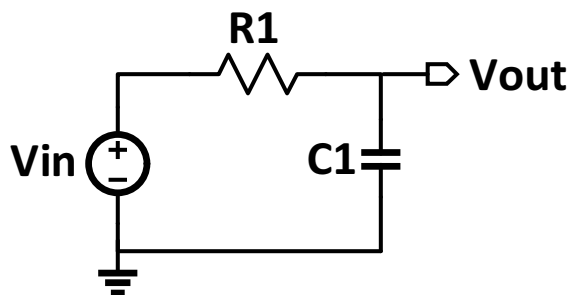
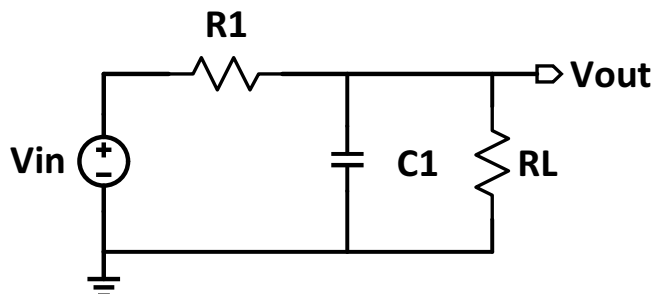

Figure 1: First Order RC Filter
Figure 2: First order RC Filter with load resistor
The work in this section involves only “paper work” and no bench setups. It requires you to use circuit analysis techniques learned in ECE 210 to compute the frequency response $\mathbf{H}(\omega)$ for circuits shown in Figs. 1 and 2. This exercise will also help set up the framework for Section 3.
For the circuit shown in Fig. 2 above:
3. If we want the **3 – dB** cut-off frequency of the circuit in Fig.2 be the same as that of Fig. 1, how will you change the value of the load resistor in Fig.2